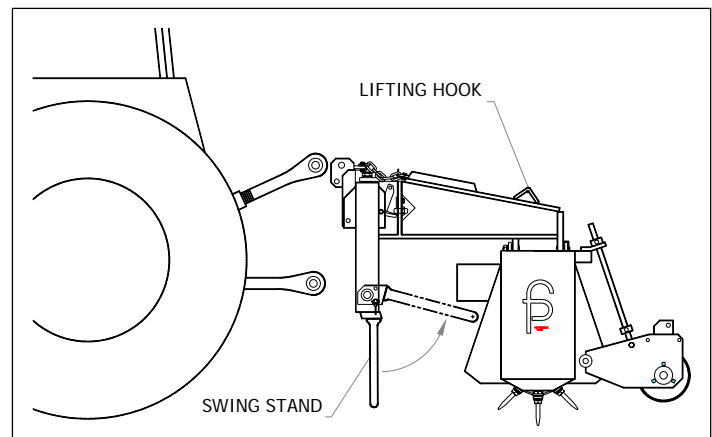

Figure 4. *Swing Stand/Lifting Hook*
- When not attached to the tractor, always use the lifting hook to hoist the machine for maintenance. (See *Figure 4*). Use extreme caution when using lifting hook because center of gravity is affected by additional attachments and the unit may shift rearward.